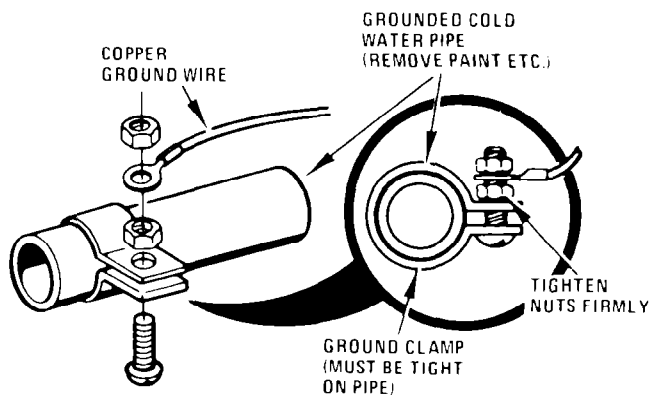

Figure 2
2. If local codes DO NOT permit frame grounding to the neutral, separate the white and green wires that extend out of the end of the supply cable of the appliance. Connect the white wire from the supply cable to the neutral wire in the junction box. Connect the black and red wire from the supply cable, matching the colors, to the corresponding wires in the junction box. The green wire must now be used to ground the appliance in accordance with local electrical codes. Connect the green ground wire to a grounded cold water pipe * or to the grounded lead in the service panel. Do not ground to a gas supply pipe. Do not connect to electric power supply until appliance is permanently grounded. Connect the ground wire before turning on the power. See Figure 2.